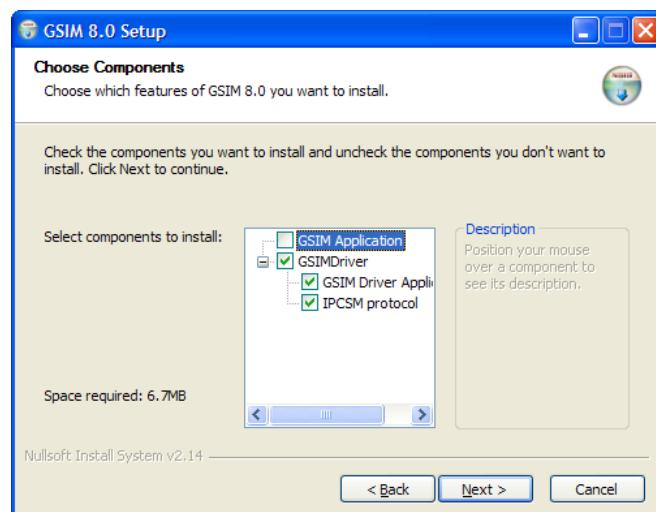

Figure 6.10 Choose Components screen: GSIMDriver only
- i) In the Choose Components screen (figure 6.10), ensure that only **GSIMDriver** is ticked, then click **Next**.